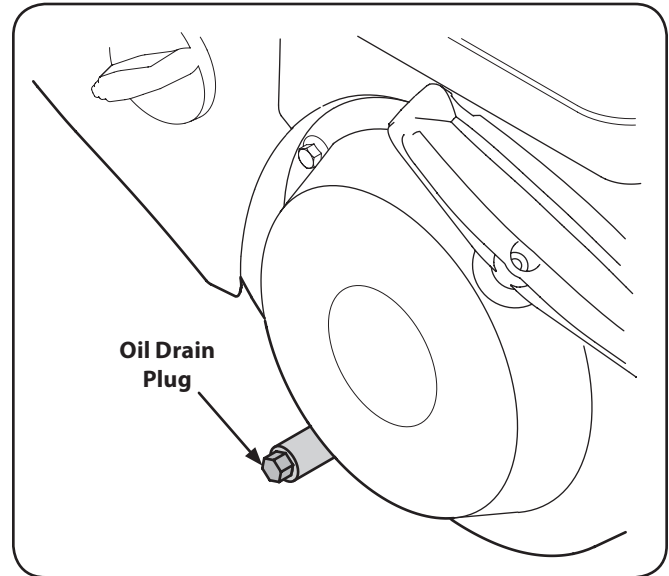

Figure 6-2
3. Remove oil drain plug. See Figure 6-2.